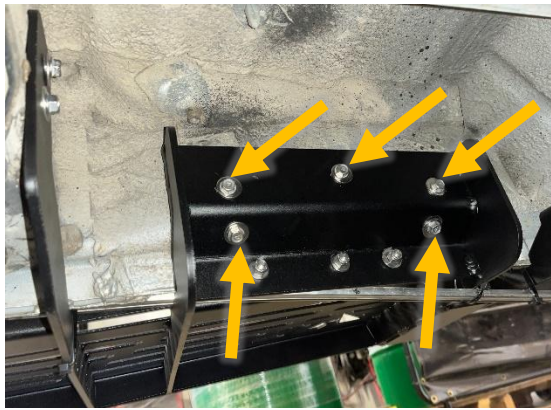

Figure 13: Driver's Side Self-Tapping Fastener Location
10. Once the correct placement along the van has been located, fasten the upper vertical and horizontal flanges of the step brackets to the vehicle using the self-tapping hardware as shown in **Figure 13**. Place firm pressure on the step against the pinch weld and mating vehicle features to ensure that the steps are properly seated as they're fastened. There are three (3)